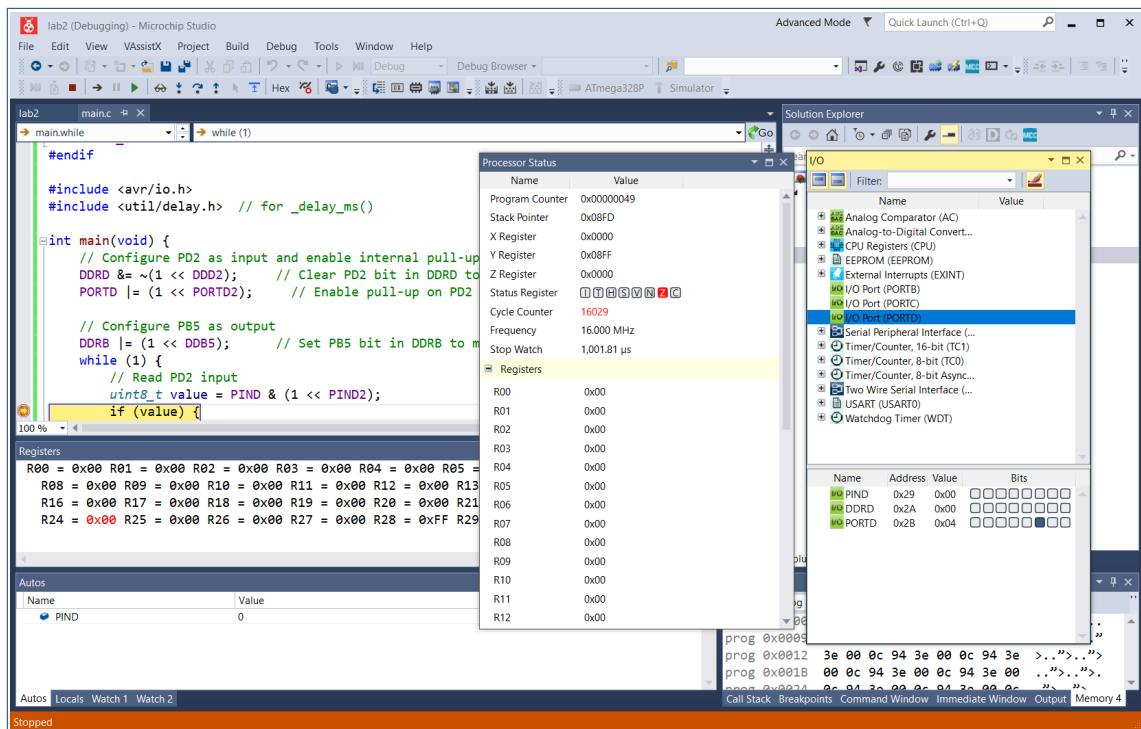

Figure 9: Debug Session (Observing I/O Port D)
2.2 Set breakpoints on the desired lines of code in **main.c** before stepping through the compiled code (see **Figure 9**).
2.3 Open the **I/O View**. Set or clear **Bit 2 of PORTD** to simulate changes in the input state during the code debug process (see **Figure 9 and 10**). Step through the code and observe the corresponding changes in **Bit 5 of Port B** and **Bit 2 of Port D**.